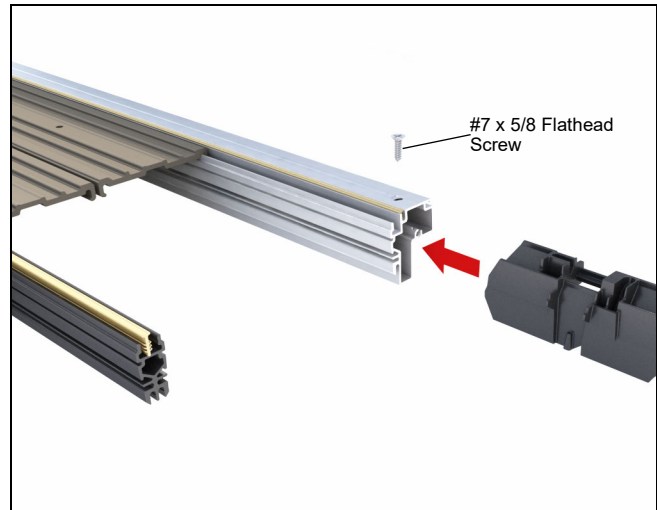

Figure 11
4. Insert frame cladding splice key(s) into one side of each splice. Align key(s) hole(s) with the hole in the frame cladding. Fasten one #7 x 5/8" flat head screw into the frame cladding splice key(s). Do not tighten screw. See figure 11.